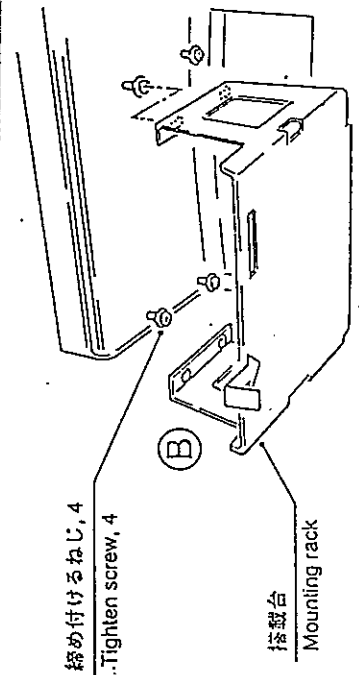

図22 Fig. 22
- (2) SSZ-305搭載台を、だるま穴をねじに合わせて取り付け、ねじ4本を締め付け固定する。(図22 ㉒)
- (2) Install SSZ-305 mounting rack, with its dowel holes fitted to screws. Fasten 4 screws and secure rack. (㉒ in Fig. 22)